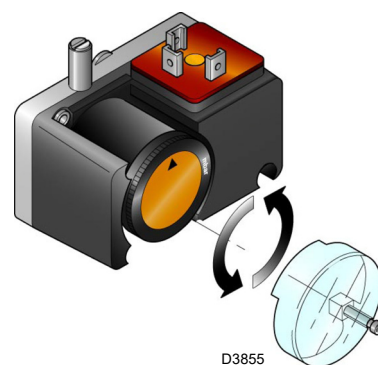

Fig. 36
- Adjust the minimum gas pressure switch (Fig. 36 at page 35) to the start of the scale.
Adjust the minimum gas pressure switch (Fig. 36) after having performed all other burner adjustments with the pressure switch set to the start of the scale.